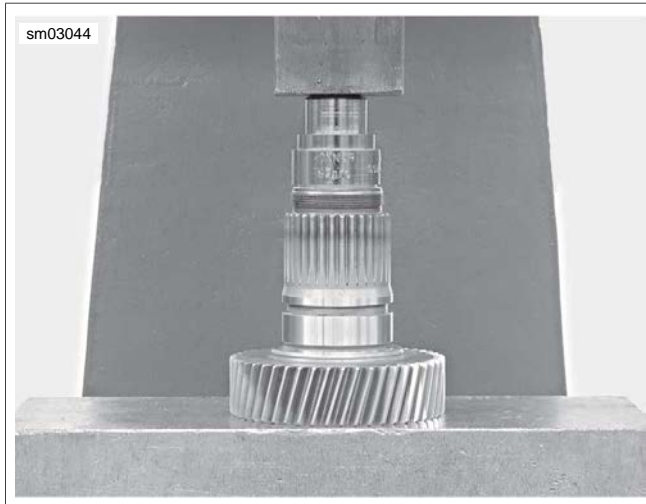

Figure 6-40. Pressing in Seal
4. See Figure 6-40. Turn over tool and press in mainshaft seal using the 0.090 in. step with garter spring side down.